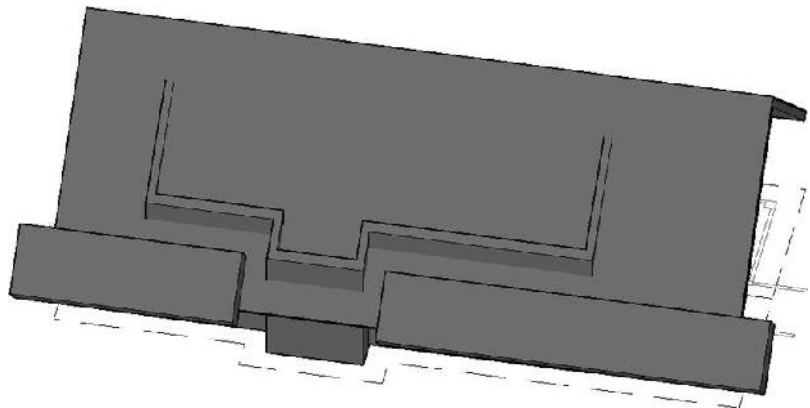

FIGURE 16.84: Extend the outside edges of the boxes.
7. Use the grips to extend the outside edges of the boxes beyond the edges of the roof (see Figure 16.84).